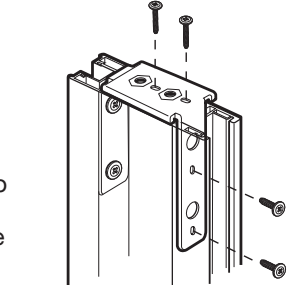

Figure 7
Insert U bracket (G) into the Top of the stile into the outside channel and the innermost channel. The side of the U clip with the larger holes should be facing the outside edge of the door. The top of the U clip will rest on the top of the stile once inserted. See Figure 7.
Insert two small screws into the oval holes on top of the U bracket and secure to the top of the stile. Take 2 small screws and secure into the oval holes in the outside of U bracket (G). This will be the outside channel of the stile. See Figure 7.